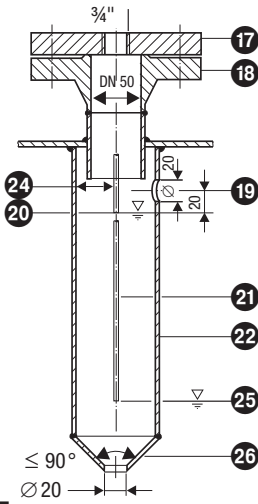
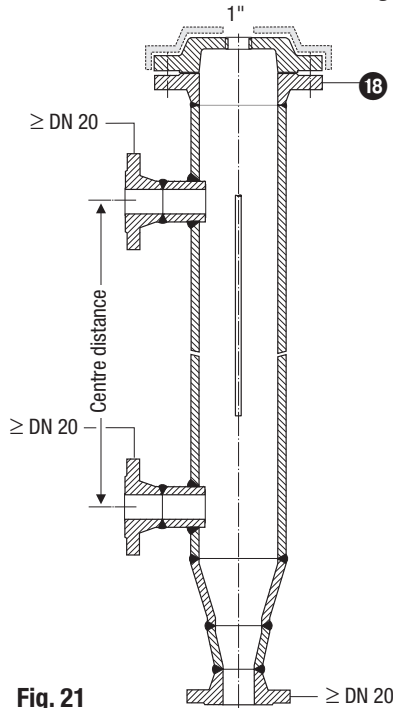

Fig. 15
Fig. 21
- Observe min. spacing when installing the electrode, Fig. 15 – Fig. 21